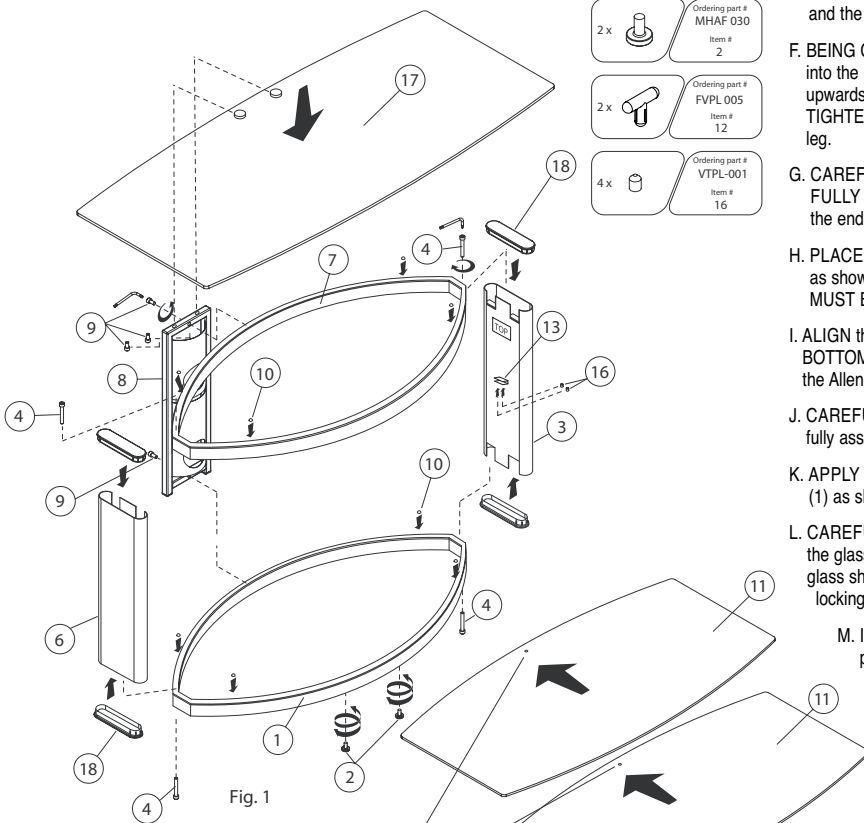

Fig. 1
- A. REMOVE the two oval metal frames from the carton and place the TOP frame (7), identified by the "TOP" sticker, to the side. SELECT the BOTTOM frame (1), identified by the two threaded metal inserts on the bottom center of the frame, and SCREW the leveling feet (2) into the threaded insert.
- B. PLACE the BOTTOM frame (1) with the leveling feet (2) on the floor facing towards the front. BEING CAREFUL NOT TO SCRATCH the BOTTOM frame, POSITION the RIGHT side leg (3) and LEFT side leg (6) over the BOTTOM frame as shown in Fig.1. with the "TOP" sticker on the legs pointing upwards and the shelf support clips facing towards the opposite leg.
- C. BEING CAREFUL NOT TO SCRATCH the TOP frame, PLACE the TOP frame (7) into the leg cutouts at the top of both legs, so that the Bell'O logo is facing forward near the right leg (3).
- D. SECURE the TOP frame (7) to both legs, using two of the long screws (4) and the supplied Allen wrench. NOTE: DO NOT FULLY TIGHTEN THE SCREW AT THIS POINT.
- F. BEING CAREFUL NOT TO SCRATCH the BOTTOM frame, PLACE the BOTTOM frame (1) into the leg cutouts at the exposed ends of both legs, so that the leveling feet (2) are facing upwards. SECURE the BOTTOM frame (1) to the legs with two long screws (4) and FULLY TIGHTEN using the supplied Allen wrench. INSERT the plastic caps (18) into the end of each leg.
- G. CAREFULLY turn the table over so that it is resting on the BOTTOM frame. GO BACK and FULLY TIGHTEN screws that secure the legs to the frame. INSERT the plastic caps (18) into the end of each leg.
- H. PLACE the CMS® (Cable Management System®) post (8) upright against the rear of the frame as shown in Fig.1. NOTE: THE TWO HOLES IN THE TOP FRAME OF THE CMS® POST MUST BE FACING UPWARDS.
- I. ALIGN the top and bottom holes of the CMS® post with the holes located on the rear of TOP and BOTTOM frames (1) and (7). SECURE the CMS® to the frames using two short screws (9) and the Allen wrench.
- K. APPLY the four rubber glass pads (10) to the upper sides of the TOP (7) and BOTTOM frame (1) as shown in Fig. 1.